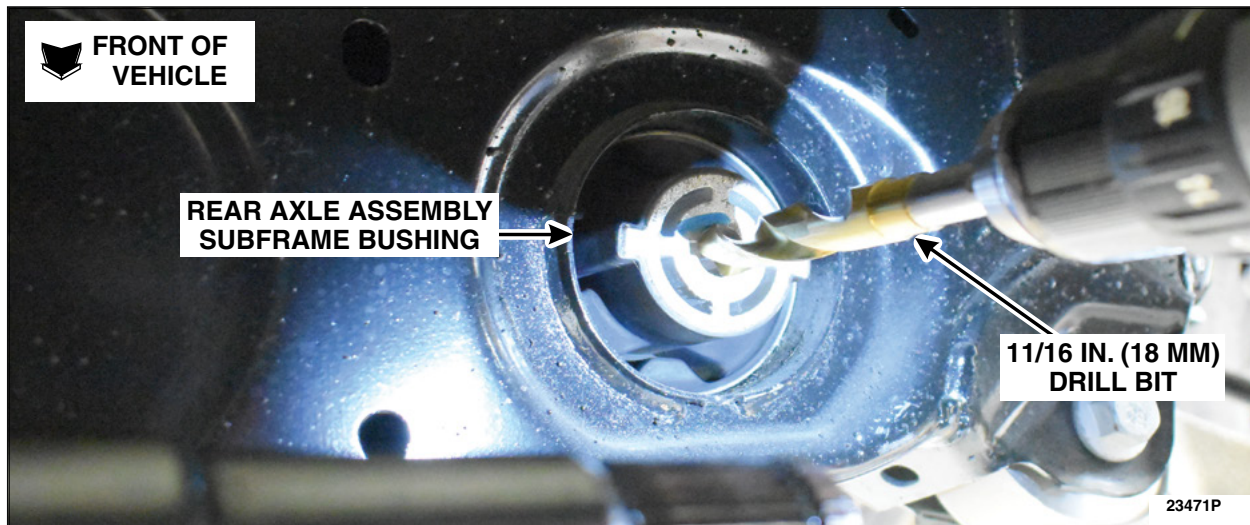

FIGURE 18
25. Using an 11/16 in. (18 mm) or larger drill bit, drill out the rear axle assembly subframe bushing hole. See Figure 18. Click on the video link to see the drilling process: 📺